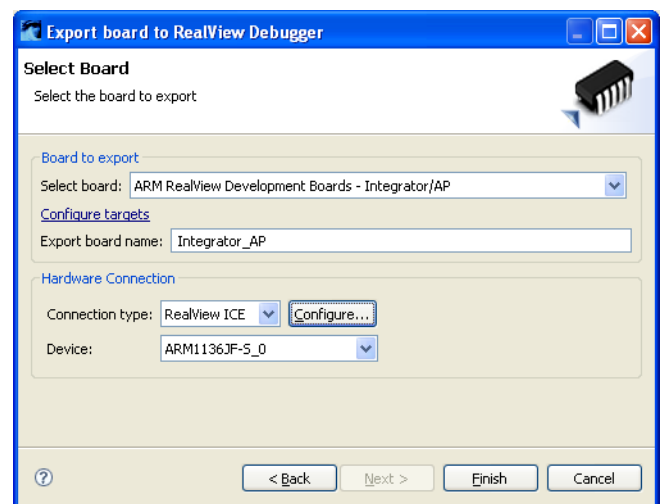

Figure 6-17 Select board configuration
2. Select the required board and device, see Figure 6-17. Click on **Finish** to export the selected board and device to RealView Debugger.